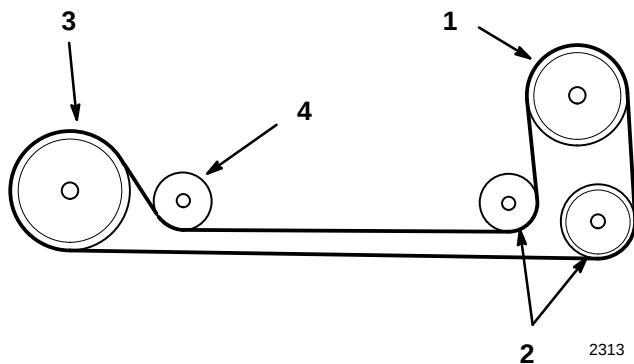

Figure 17
15. Route belt around and mid-mount idler pulleys, below frame and behind right rear tire (Fig. 17).
16. Pull on idler arm spring to relieve tension and route belt around tiller drive pulley, under tiller idler and inside belt guide (Fig. 17).
17. Check that belt is properly routed around all pulleys and belt guide (Fig. 17).